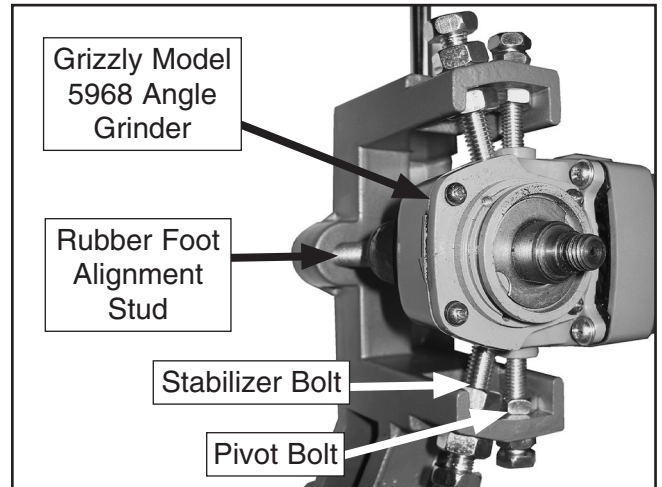

Figure 5. G8183 grinder mounting locations.
- Thread both pivot bolts completely into the holes in the grinder headstock and tighten the jam nuts (**Figure 5**). **Note:** *The hole may be larger in diameter than the pivot bolts because these pivot bolts merely serve as the pivot pins for when the grinder is adjusted in **Step 5**.*
- Finger tighten both stabilizer bolts against the grinder headstock casting (**Figure 5**).